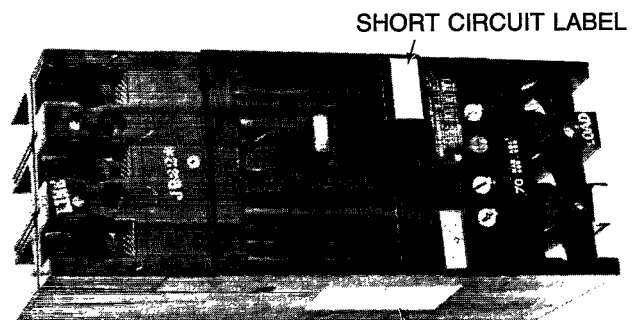

Figure 2
2. Remove (4) breaker cover mounting screws. (Fig. 2). (8 screws for THLC and TLB breakers)
7. Replace cover, taking care that wire leads are not pinched between cover and case. Affix accessory rating label to side of C/B. Affix short circuit label on cover for F225 C/B. (Fig. 2).